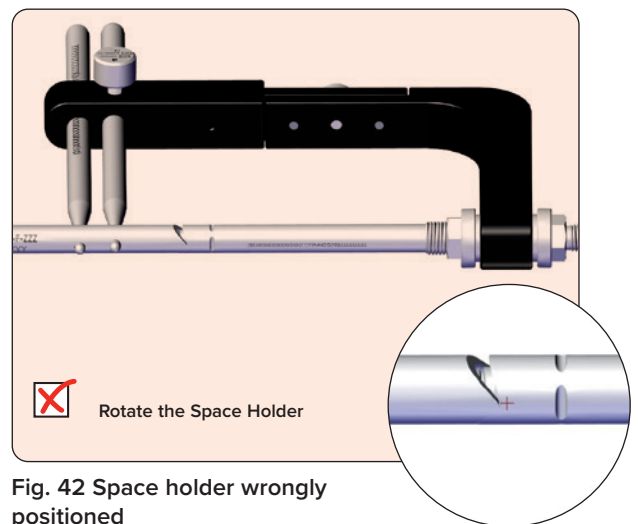

Fig. 42 Space holder wrongly positioned
1. The marking "THIS SIDE UP" on the Space Holder is not facing upwards and the connection between drill guide assembly and nail is loose. (Fig. 42)